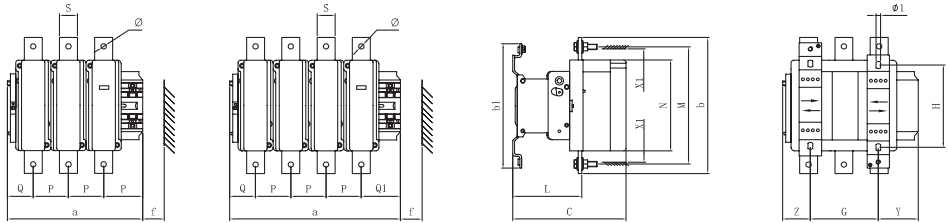

Fig. 4 Outline and installation dimensions of CJX2F-630, 6304, 800, and 8004
6.3 The outline and installation dimensions of CJX2F-630, 6304, 800, and 8004 see Fig. 4 and Table 6.